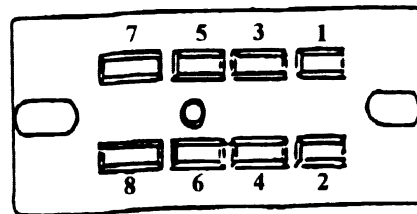

Figure 3
2. Remove the terminal from location 3 of the changer socket (See figure 3 above) using the removal instructions on page 3.
4. Remove the terminal from location 7 of the changer socket using the removal instructions on page 3. (See figure 3 above.)
6. Insert wire #3 of the conversion harness in changer socket location 3. (See figure 3, page E1.)
7. Insert wire #4 of the conversion harness in changer socket location 4. (See figure 3, page E1.)
8. Insert wire #7 of the conversion harness in changer socket location 7. (See figure 3, page E1.)
9. Insert wire #8 of the conversion harness in changer socket location 8. (See figure 3, page E1.)